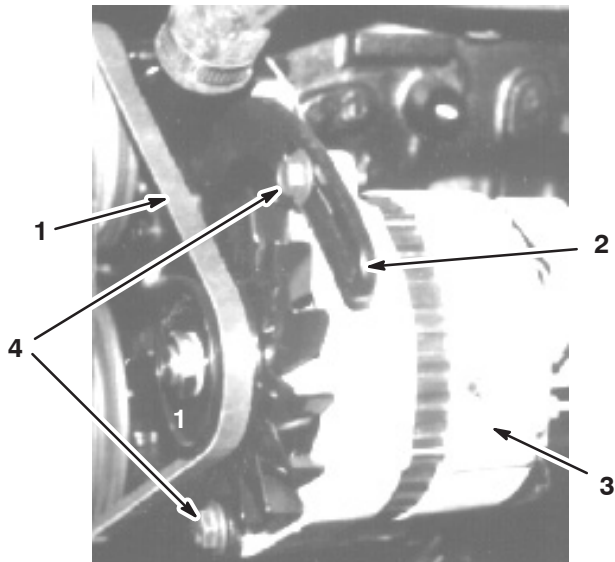

Figure 52
- 3. Loosen the bolts that secure the brace to the engine and the bolt that secures the alternator to the brace (Fig. 52).